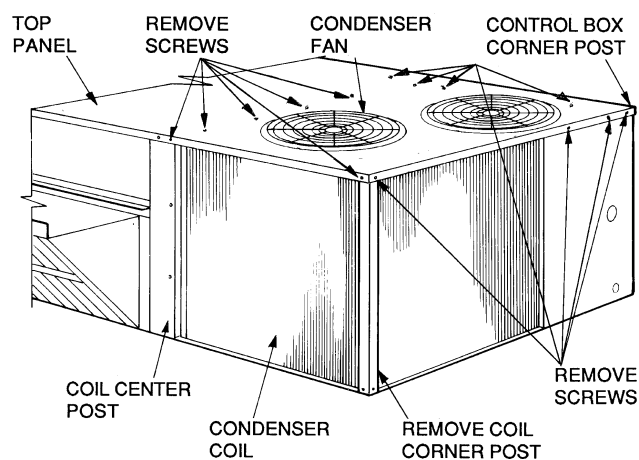
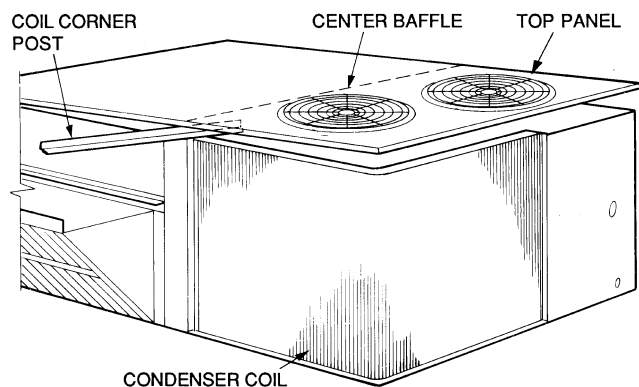

Fig. 41 — Cleaning Condenser Coil (50TFF008-014)
Fig. 42 — Propping Up Top Panel (50TFF008-014)
3. Remove condenser coil corner post. See Fig. 41. To hold top panel open, place coil corner post between top panel and center post. See Fig. 42.